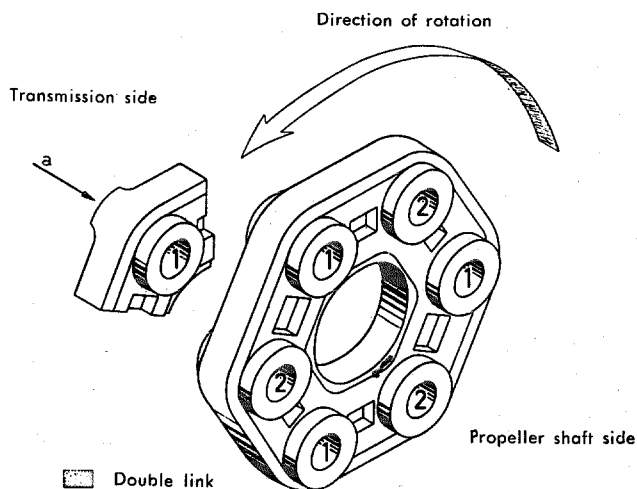

Fig. 41 — 1/4a
10. Attach the shaft plate to the transmission three-way flange and cotter the fitted screws. Use the three short fitted screws (see Fig. 41 — 1/5). Install the shaft plate in such a way that the double links are under tensile stress. For this purpose the bores (1) must always be connected to the three-way flange of the transmission (Fig. 41 — 1/4a). On the recent versions of the shaft plate the bores (1) are marked as shown in the picture below (see 'a').